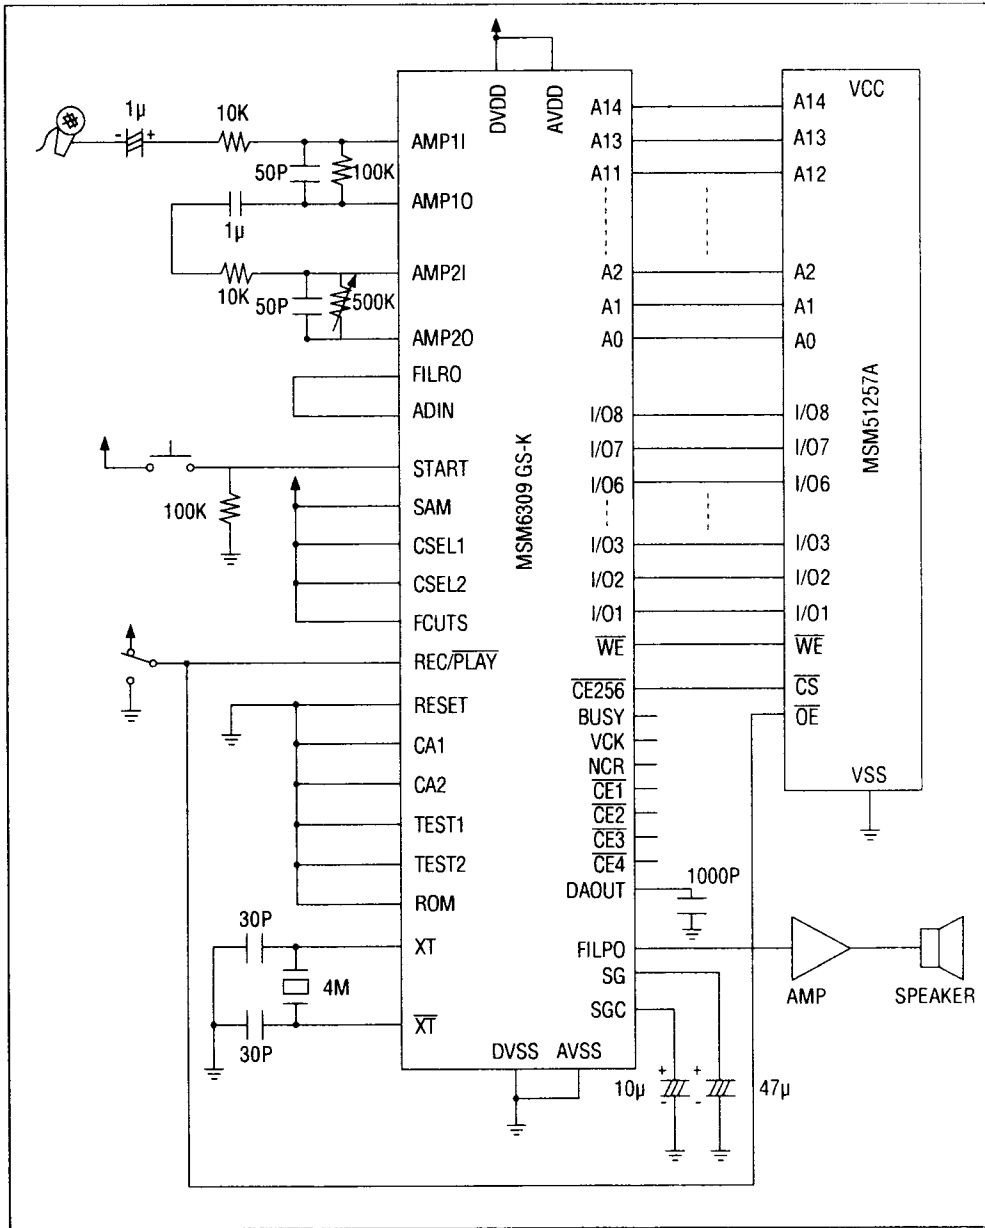

Figure13 Example of Application Circuit with 256K SRAM
- Figure 13 shows an example of the application circuit when MSM6309 and 256K SRAM is used.